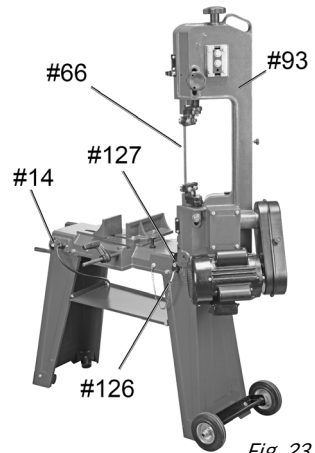

Fig. 23
3. Raise the Body Frame to its full vertical position. Turn the Support Plate (#127) clockwise until it firmly locks into the Body Frame and insert the Locking Pin to lock Body Frame into position (Fig. 23).
4. Raise the Body Frame to its full vertical position. Turn the Support Plate (Fig. 25-7) clockwise until it firmly locks into the Body Frame and insert the Locking Pin to lock the Body Frame in position (Fig. 23).